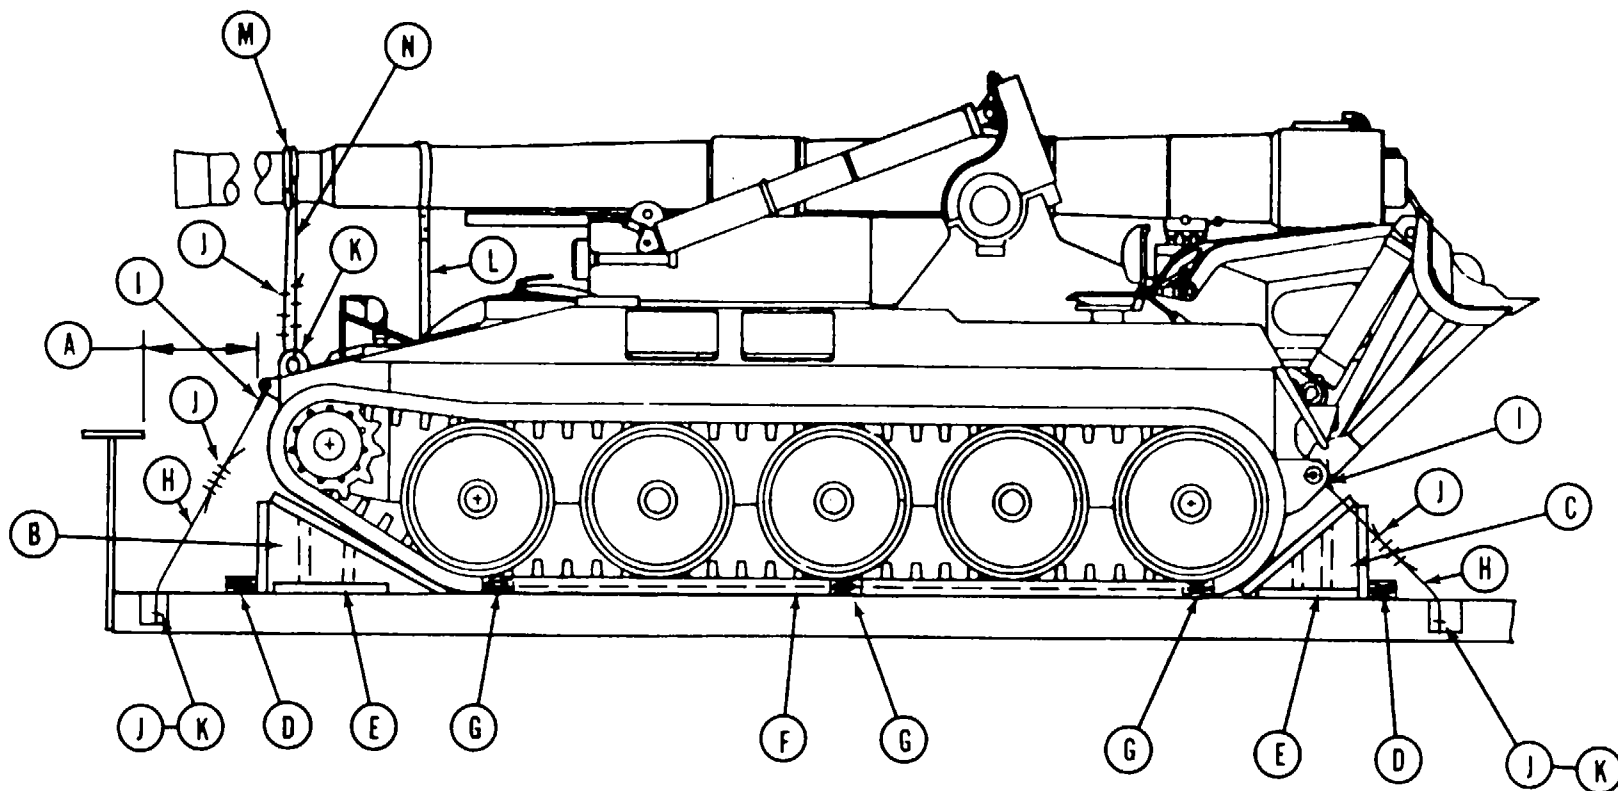

Figure 7-1. Blocking and tiedown diagram of typical gun, M107, on CONUS general-purpose flatcar (side view).
b. The load shown in figures 7-1 and 7-2 is based on a flatcar width of 10 feet 6 inches. Fig 7-3 provides detailed instructions for blocking
Table 7-1. Bill of Materials for Blocking and Tiedown of Typical Gun, M107 on CONUS General-Purpose Flatcar (Fig 7-1, 7-2, and 73)
Table 7-2. Application of Materials for Blocking and Tiedown of Typical Gun, M107, on CONUS General-Purpose Flatcar (Fig 7-1, 7-2, and 7-3)
Table 7-2. Application of Materials for Blocking and Tiedown of Typical Gun, M107, on CONUS General-Purpose flatcar (Fig 7-1, 7-2, and 7-3)-Continued